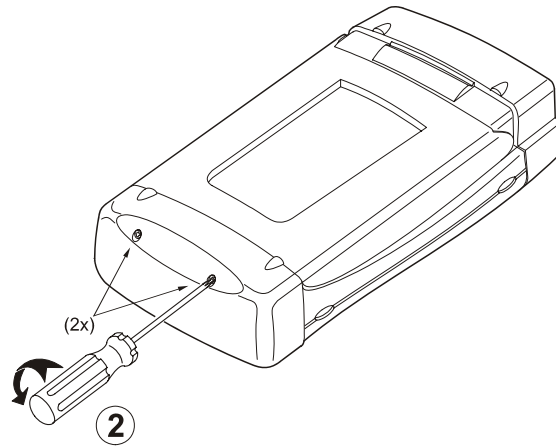

Figure 5-3. Loosen 2 Bottom Holster Screws
2. Loosen the two M3 Torx screws that secure the bottom holster (Figure 5-3).